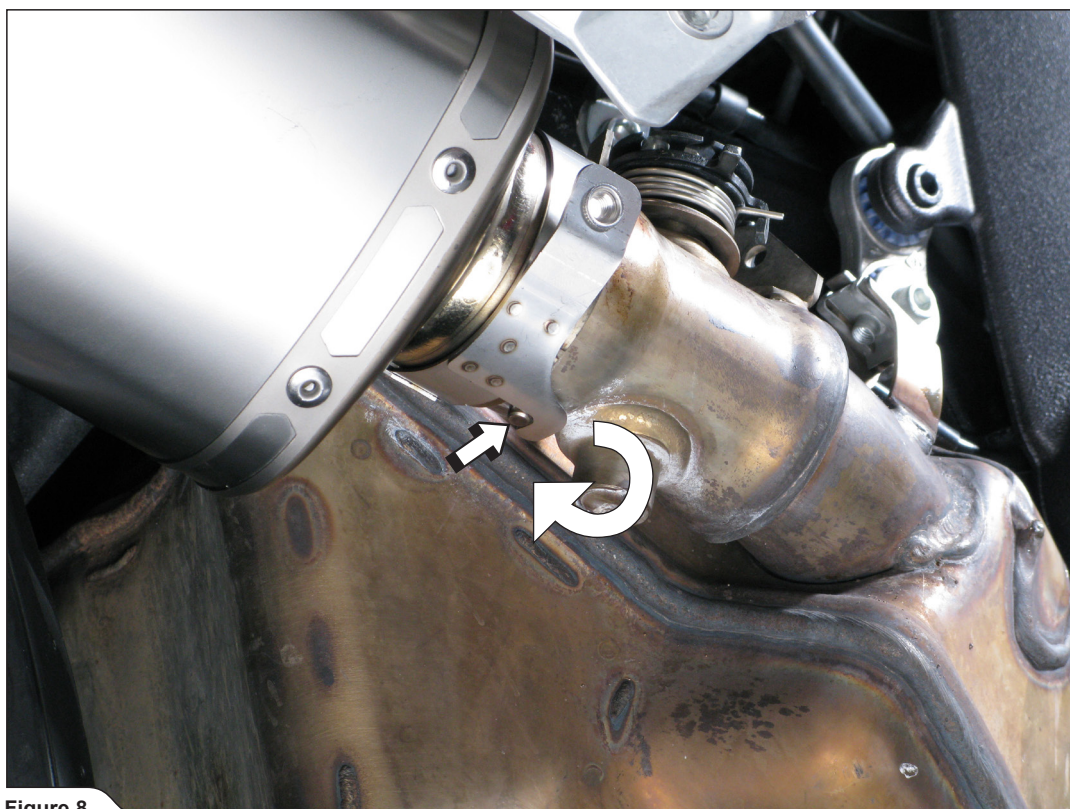

Figure 8
3. Slide the muffler onto the stock collector, and rotate the metal clamp so, it hooks to the pin (Figure 8).